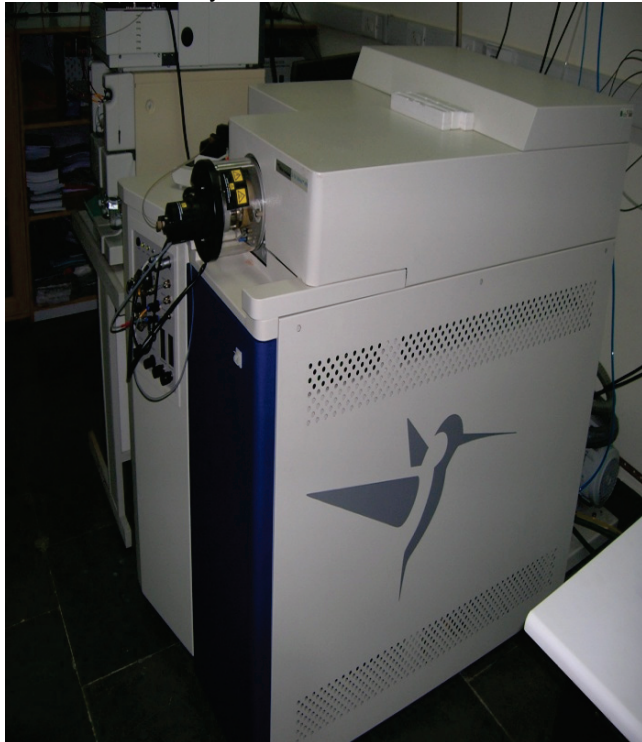

Figure 1) Waters Q-TOF Ultima mass spectrometer (former Micromass)
6. Allow the spray to stabilize. You will see some small masses (156.6676 and 213.2656- corresponding to the spray mix solvent) in the spectrum. Check for response, ideally a response of about 150 to 200 ions/scan is good. Record the spectrum – for reference (Figure 1)